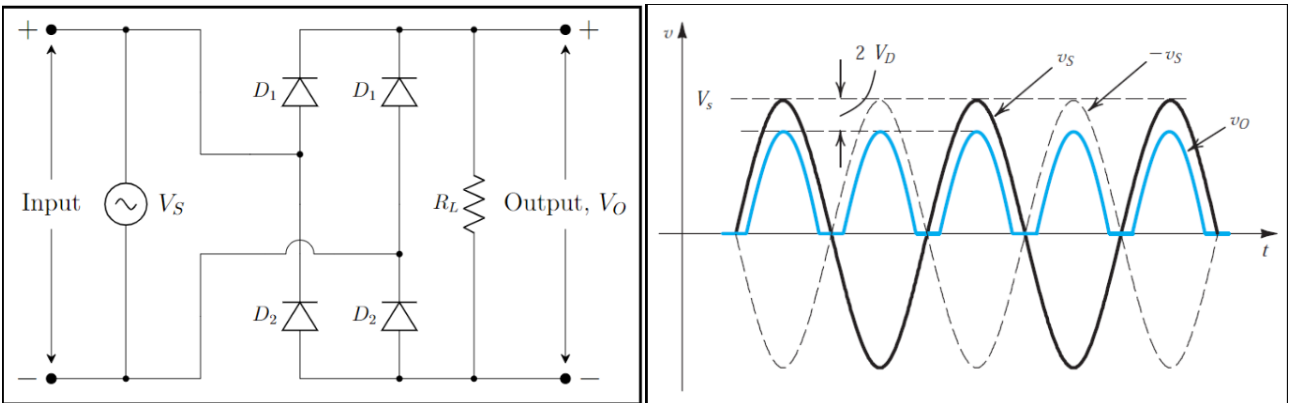

Figure 5: *Full-Wave Rectifier Circuit without Capacitor and the Waveform of Input and Output*
1. Construct circuit of **Figure 5**. Observe V_S and V_O separately on the oscilloscope [i.e. don't use both channels simultaneously, use only one channel].